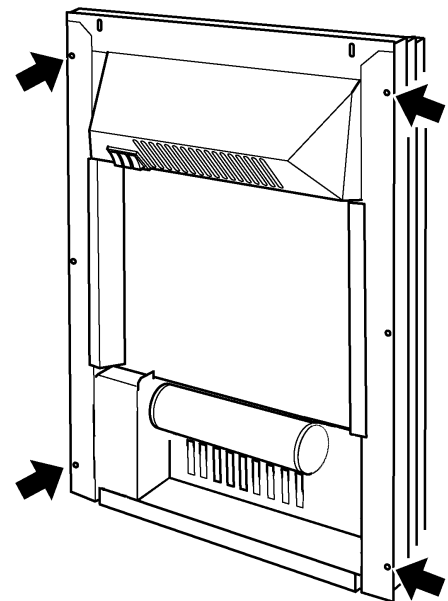

Figure 7.
- Position the heater in front of the spacer frame. Mark the position of four fixing holes as in figure 7. Drill pilot holes in the spacer frame. Screw the heater to the spacer frame as in figure 7.